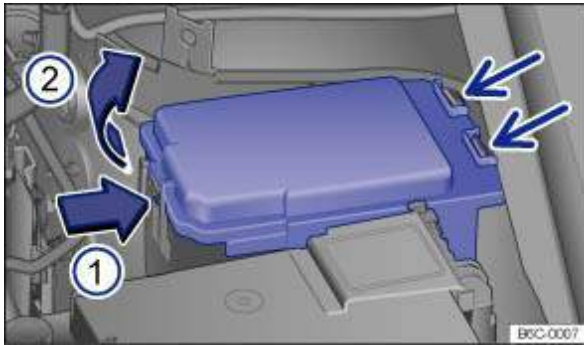

Fig. 204 In the front left of the engine compartment: fuse box cover
- Press the release button in the direction of the arrows → Fig. 204 ① to release the fuse box cover.
- Remove cover upwards in direction of arrow ②.
- To fit the cover, insert it in the retainers (thin arrows) and place on top of the fuse box. Press the cover down in the opposite direction to the arrows ② until it engages audibly.